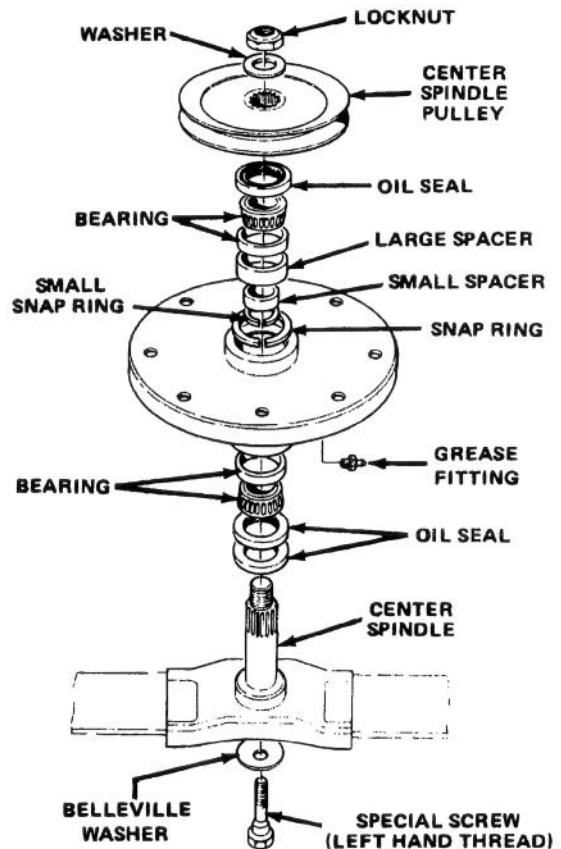
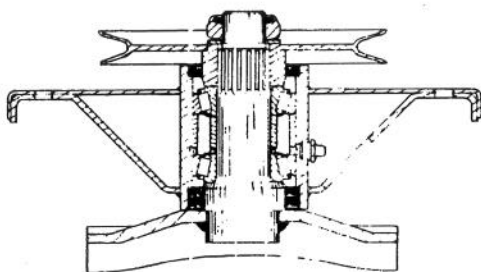
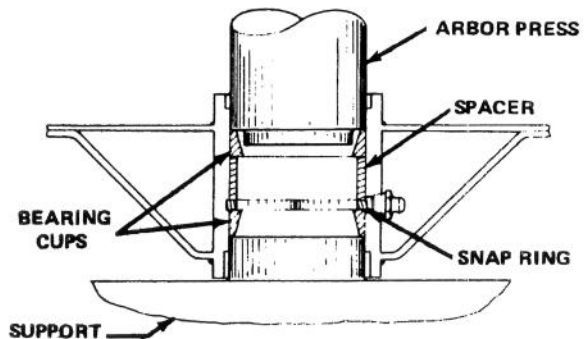

Figure 35
Figure 37
Figure 38
7. If spindle shaft will be replaced, remove special screw, belleville washer and blade from spindle shaft (Fig. 35). Otherwise, the blade and its other associated parts may be left on the spindle shaft.
8. Press spindle shaft out of spindle housing (Fig. 35), using an arbor press. Bearing, small spacer and snap ring (Fig. 35) will remain on spindle shaft as shaft is being removed. The two lower oil seals may also remain on shaft.
9. The seals (Fig. 35) will be removed next; however, notice the lip of the seal. The lip faces outward, and this is normal. Therefore, new seals must always be installed with the lip facing outward, not toward the spindle housing. Now remove seals from spindle housing.
10. Remove remaining bearing from spindle housing (Fig. 35).
11. Using a punch and hammer, drive both bearing cups (Fig. 35) out of spindle housing. Also remove large spacer (Fig. 35) from housing.
1. Install large snap ring into groove in bore of spindle housing (Fig. 38). Assure snap ring is seated in the groove.
2. Insert the large spacer into top of spindle housing and tightly against the snap ring (Fig. 35). Spacer must contact snap ring to ensure correct assembly of parts (Fig. 37).
3. Apply lubricating oil to bearing cups and using an arbor press, push bearing cups — smallest ID first — into top and bottom of spindle housing (Fig. 35). Top bearing cup must contact spacer that was installed in step 2, and bottom bearing
cup must contact snap ring. To ensure correct assembly of parts (Fig. 37), support the first cup and press the second against it (Fig. 38).
4. Place lower bearing into housing, apply a film of grease on lip of both lower seals; then install seals into bottom of spindle housing (Fig. 37). Remember though, the bottom seals must have the lip facing outward (Fig. 37), not toward inside of spindle housing.
7. Slide small snap ring and small spacer onto spindle shaft (Fig. 35).
8. Oil top bearing and press it onto shaft. Support bottom of spindle shaft to assure snap rings stay in place (Fig. 38).